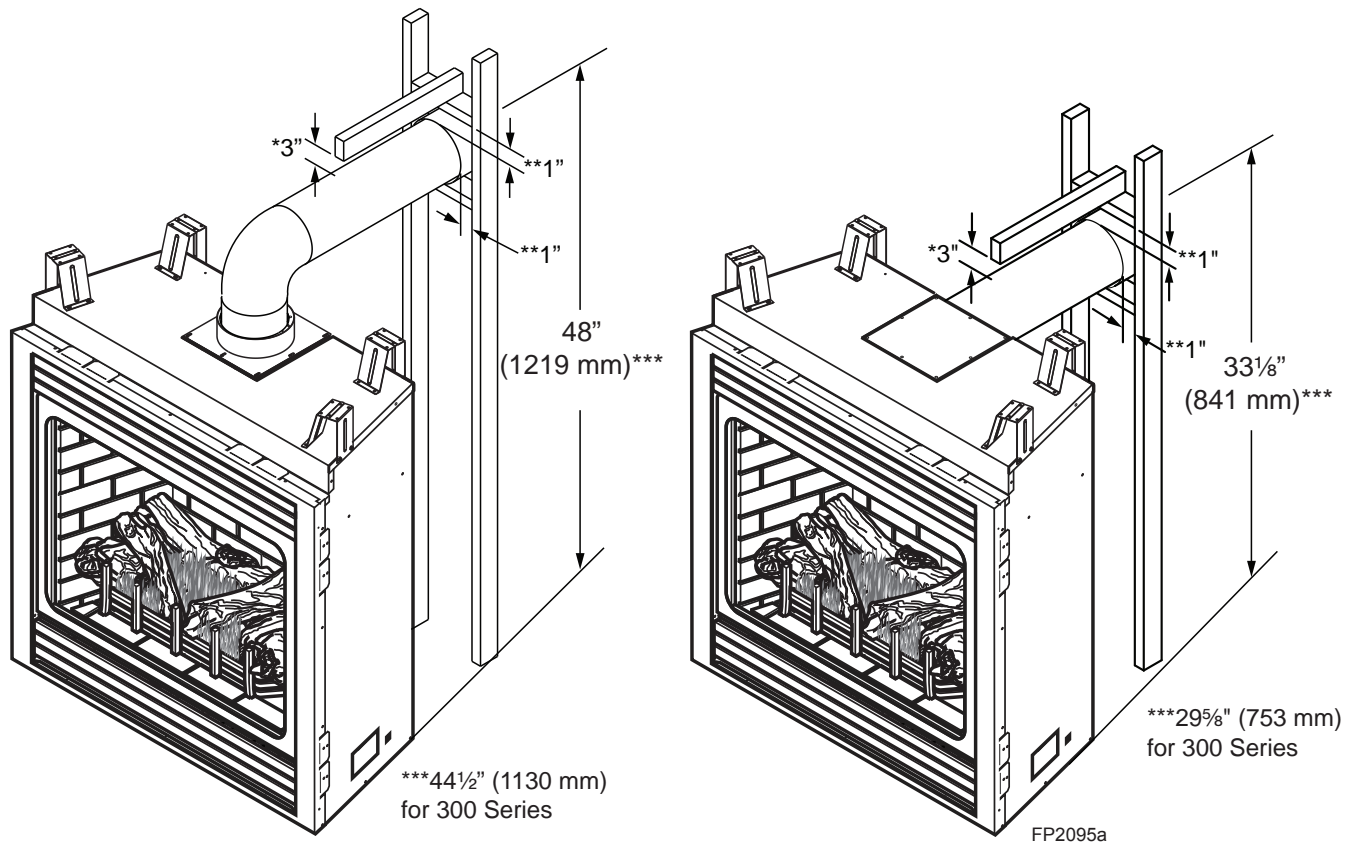

Figure 15 - Combustible Clearances for Vent Pipe
- The maximum horizontal distance between the rear of the appliance (or end of the transition elbow in a corner application) and the outside face of the rear wall is 20" (508 mm). *Figure 15*